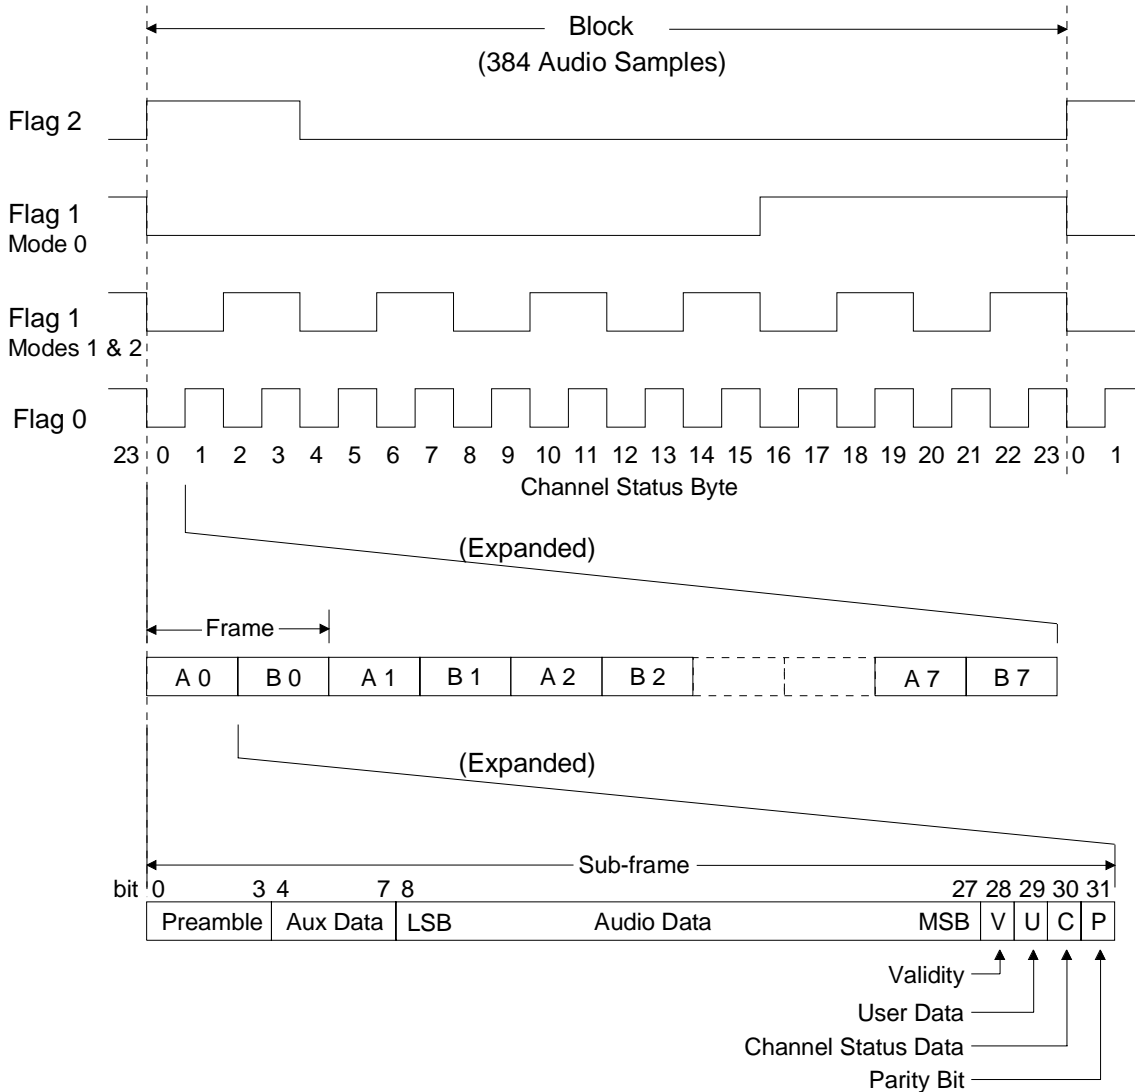

Figure 11. CS8413 Status Register Flag Timing
- FLAG1: Memory mode dependent - See Figure 11.
Figure 11 illustrates the flag timing for an entire channel status block which includes 24 bytes of channel status data per channel and 384 audio samples. The lower portion of Figure 11 expands the first byte of channel status showing eight pairs of data, with a pair defined as a frame. This is further expanded showing the first sub-frame (A0) to contain 32 bits defined as per the digital audio standards. When receiving stereo, channel A is left and channel B is right.